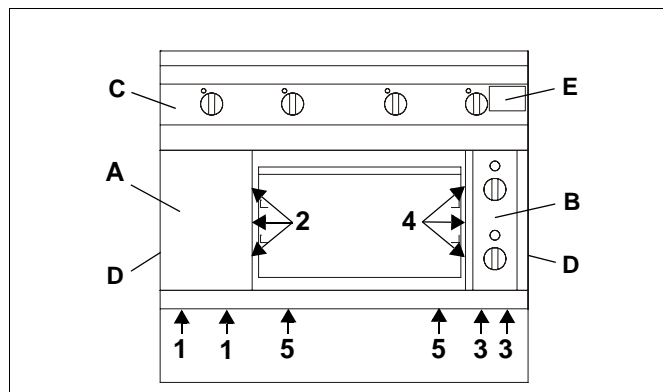

Fig.5 General view
The specification plate (E) is located in each case inside and outside on the right of the operator panel (C) (page 6 Fig. 5).
outside on the right of the operator panel (C) (page 6 Fig. 5).